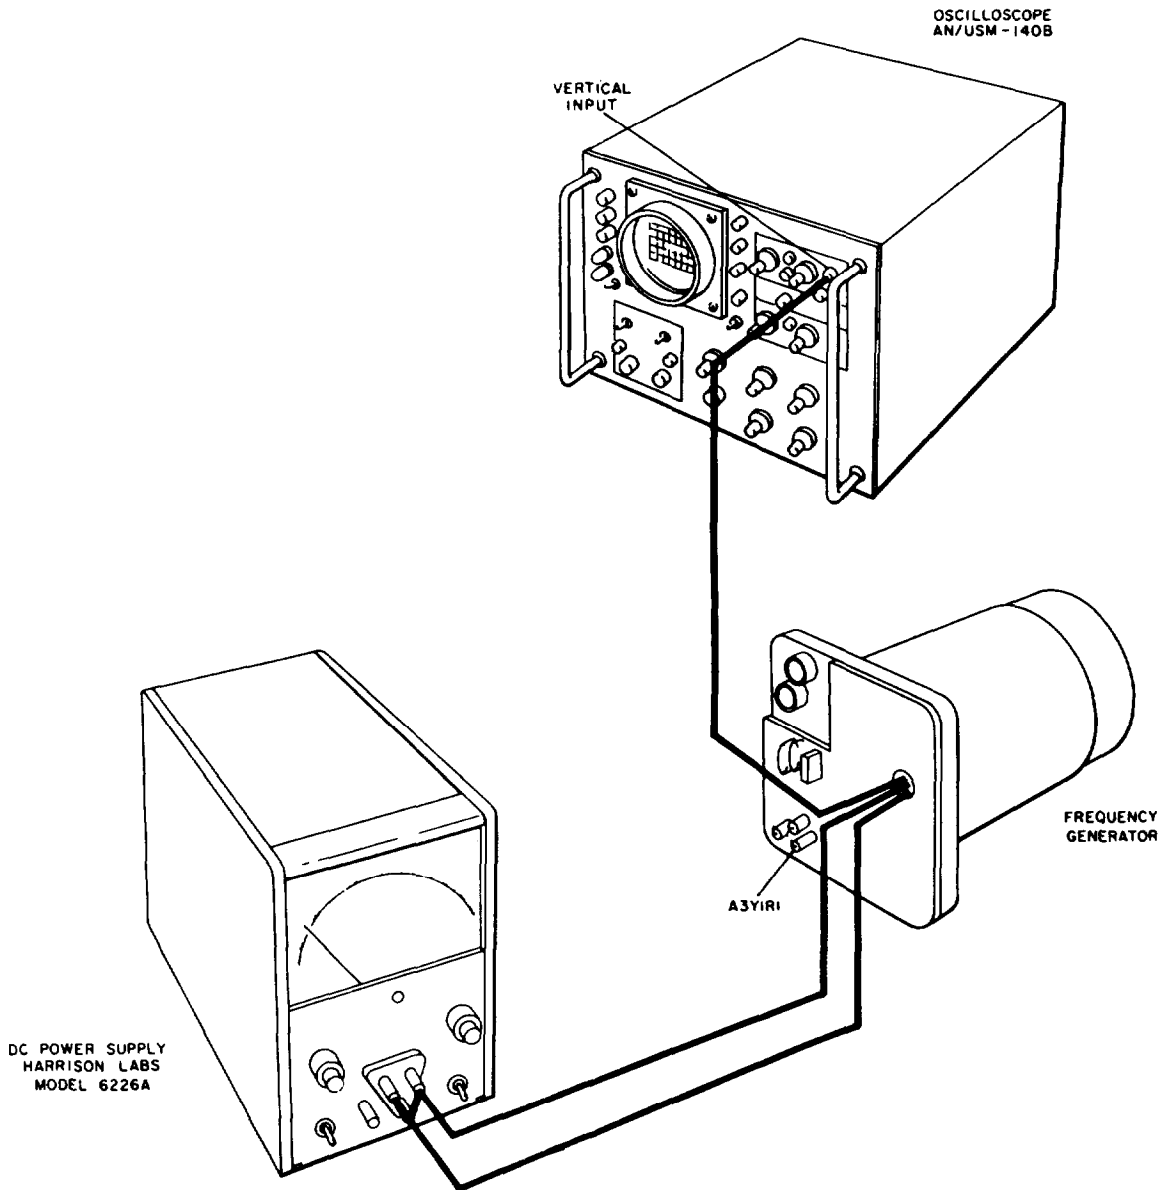

Figure 5-31. Selecting Resistor A3Y1R1, Test Setup (OVENAIRE)
- (1) Follow the procedure of steps (1) through (8) of paragraph ae and separate the frequency generator from the crystal oven.
- (2) Connect frequency generator within the test setup shown in figure 5-31.